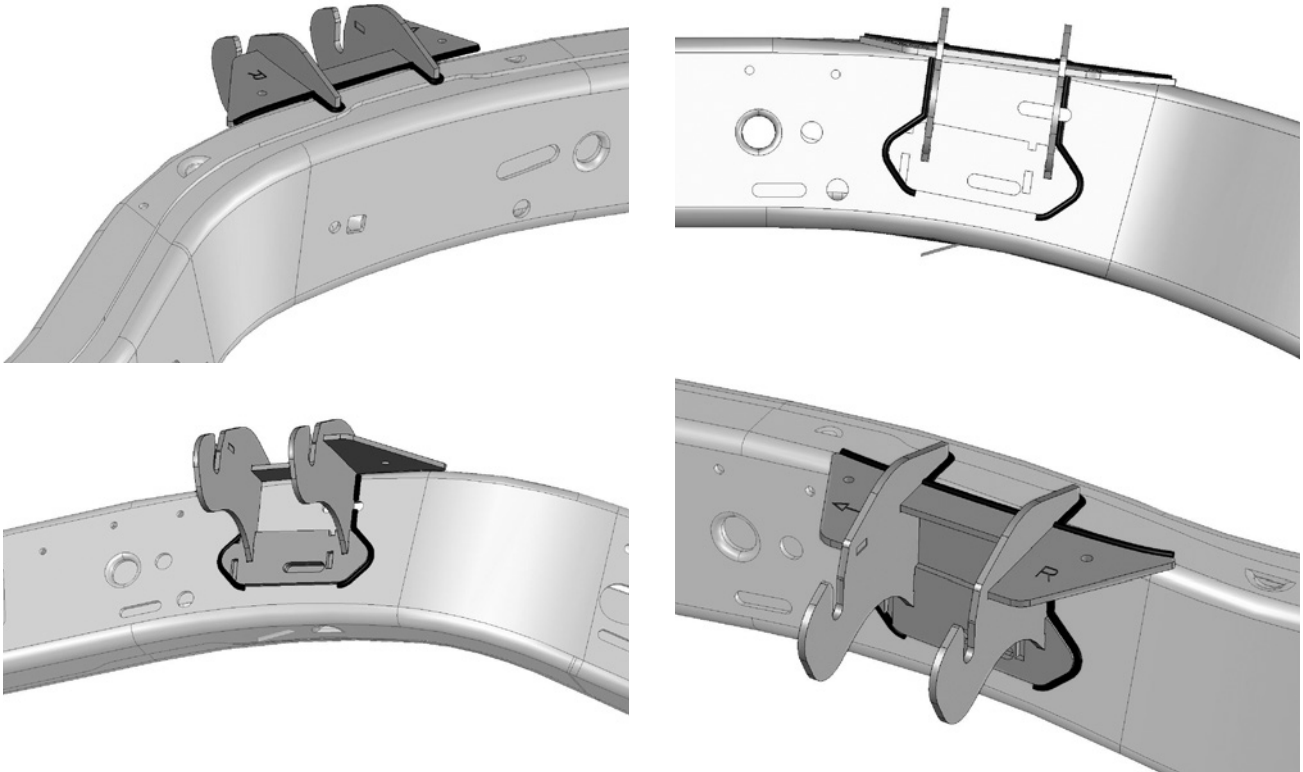

Figure 12
3. Weld on AEV supplied Engine mounts (fig 12).